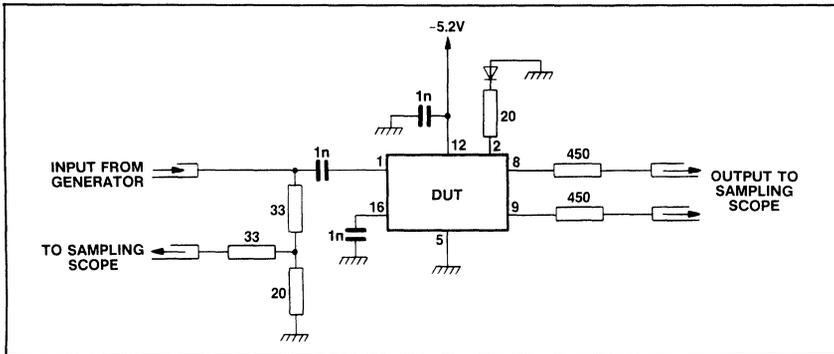

Fig.8 Test circuit
4. The test configuration for dynamic testing is shown in Fig.8.